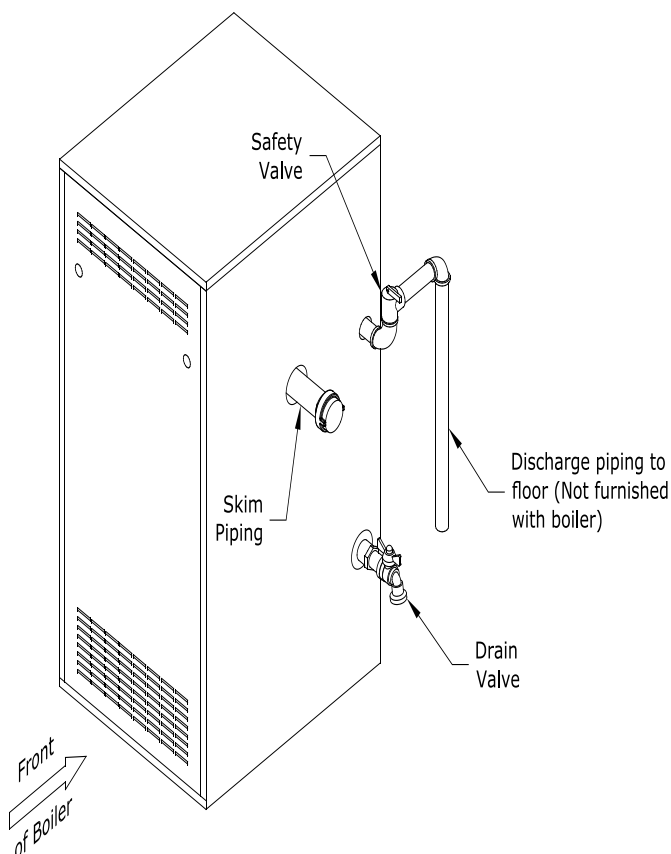

Figure 21: Trim Installation
- B.** Install Safety Valve in Tapping "E" ($\frac{3}{4}$ NPT). See Figure 21. Use $\frac{3}{4}$ NPT x 3" nipple and $\frac{3}{4}$ NPT elbow provided. Safety Valve must be installed with spindle in vertical position.
- C.** Install 2 NPT x $\frac{3}{4}$ NPT bushing provided in Tapping F. Install Drain Valve in Tapping "F" See Figure 21.
- D.** Install skim pipping in Tapping "L". Use 1 1/4 NPT x 6" nipple and cap provided. See Figure 21.
2. Limit. See Figure 21. Install temperature limit control (Honeywell L4006A or equal) in Tapping "P" (¾ NPT). See Figure 2. Set at 180°F to prevent steam production during non-space heating periods.